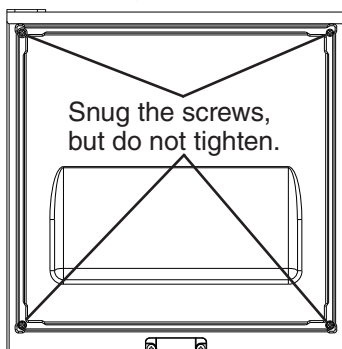

Fig. 24
- 5) Fasten the overlay panel to the door using the four M4x25 pan head screws provided. **Snug the screws, but do not tighten.** See Fig. 24.